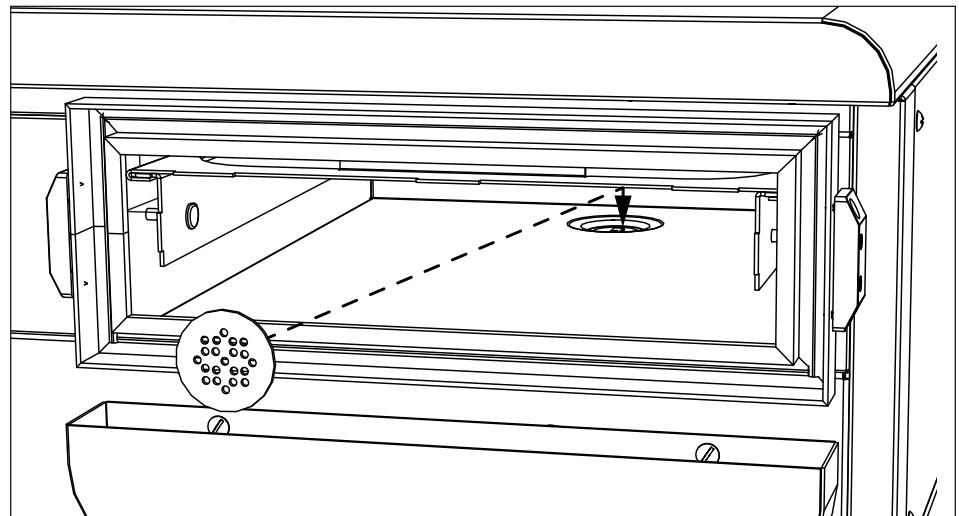

Figure 11. Cavity Drain Screen Removal
3. Remove both cavity drain screens and rise clean of any debris (Figure 11).